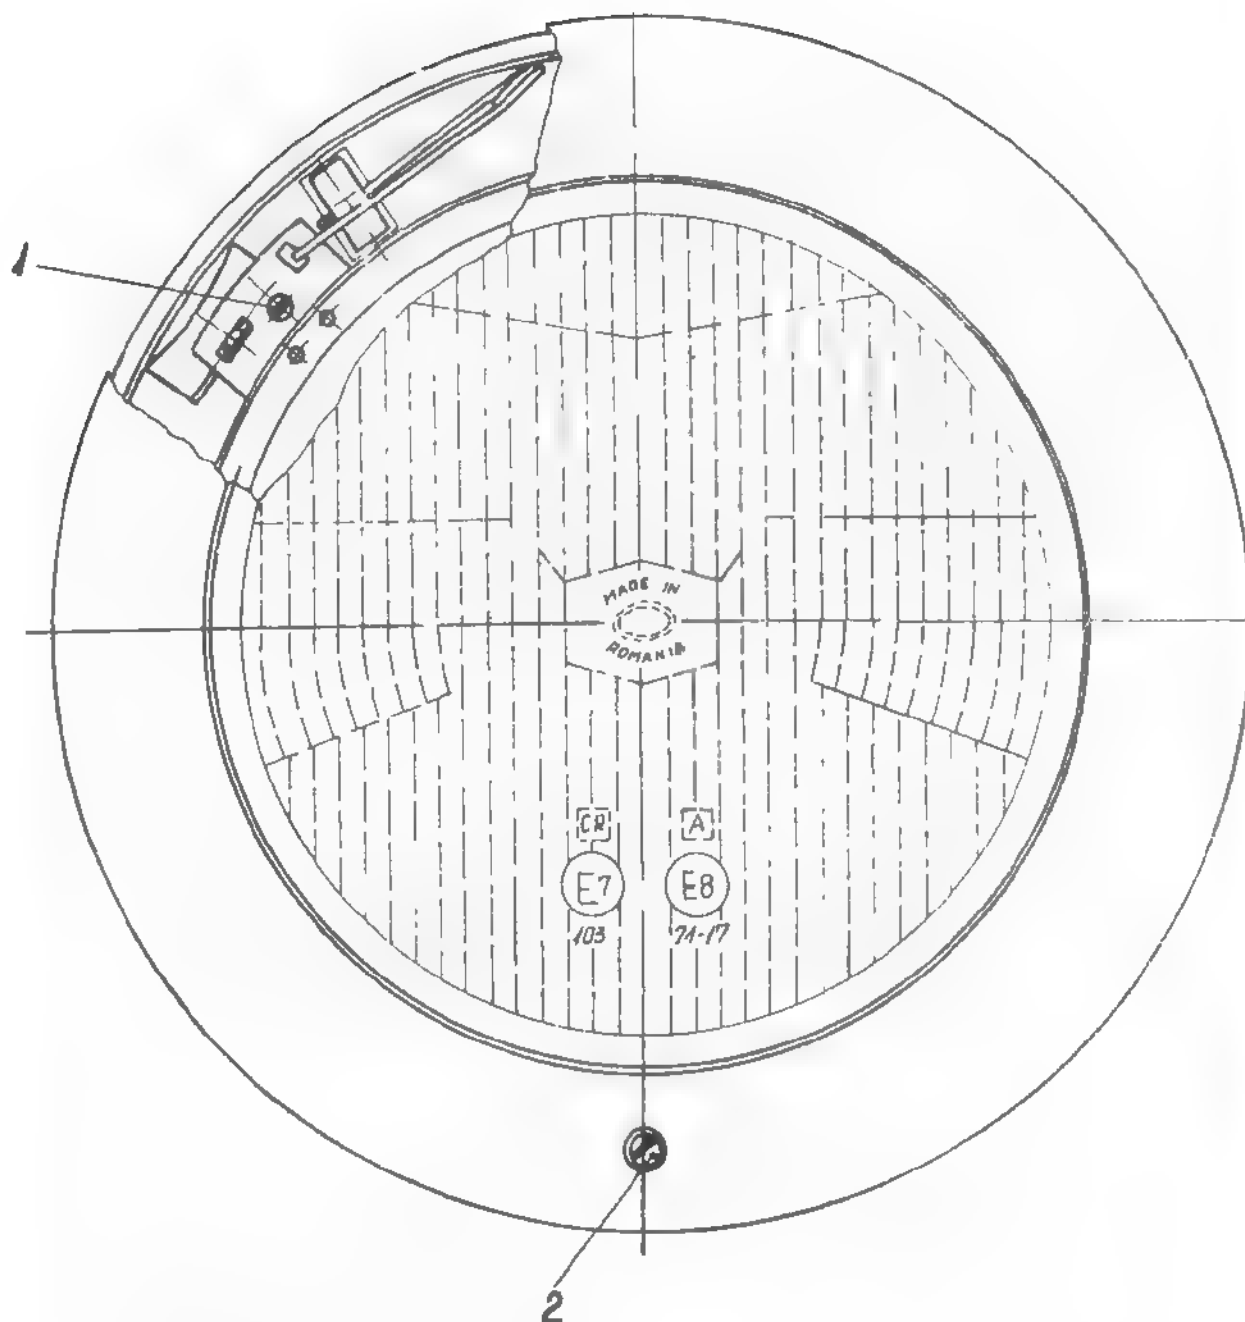

Fig.2.57. ROUND HEADLAMP
- The adjusting of the light beam direction, horizontally, upwards, is performed by turning the screw (2) (on the right side of the headlamps **F A D** and **F E D** or the screw (1), on the left side of the round headlamp (see fig. 2.57).